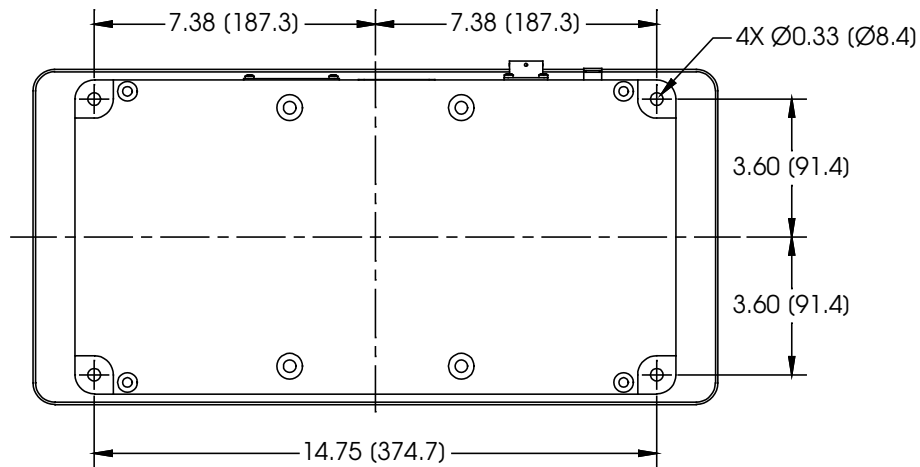

Figure 3. AFD1100-3 Mounting Bracket hole locations
The *AFD1100-3* is designed for mounting on a stationary fixture. It has (4) four $\varnothing 0.33$ " ($\varnothing 8.4$ mm) mounting holes spaced as shown in Figure 3. The *AFD1100-3* Table Top Mounting Bracket should not be modified without first consulting *PushCorp, Inc.*